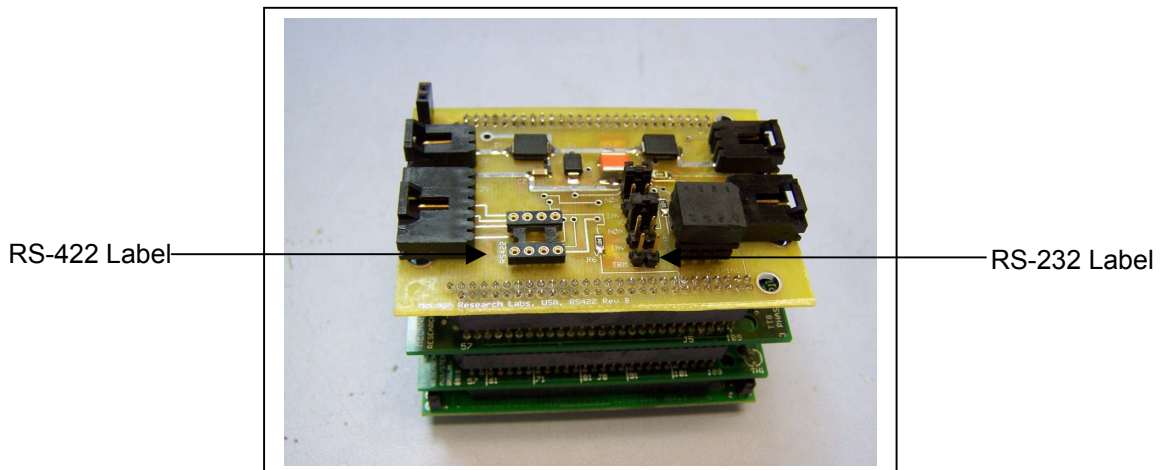

Figure B-4: RS-422 and RS-232 Labels on Circuit Board
3. Using the circuit tool extractor (provided in the toolkit), gently lift the jumper from the current socket on the External Power/RS-422 circuit board (the RS-422 and RS-232 circuits are labeled, see Figure B-4).